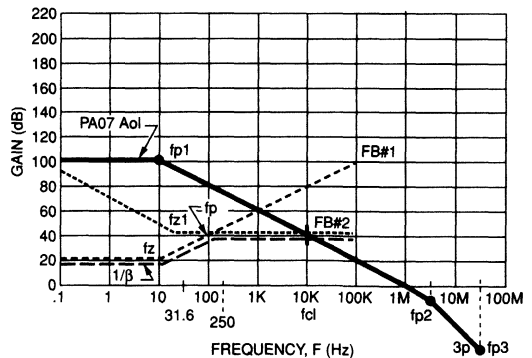

FIGURE 21. FINAL VALUE MAGNITUDE PLOT FOR STABILITY
STEP 5: We need to revisit FB#2 to make this V-I circuit stable. Figure 21 shows a new FB#2 and the resultant $1/\beta$ plot. Before we look at the open loop phase plot, let's discuss Figure 21. We see that in the PA07 Aol curve there is a pole at fp1, 10Hz, which will be a pole in our open loop phase plot. We also see a zero at fz, 10Hz, in the $1/\beta$ plot, which will become a pole in our open loop phase plot. Now we have two poles at 10Hz in our open loop phase plot. To keep the open loop phase from reaching -180, we must add a zero at 100Hz to get 45 degrees of phase margin. Poles and zeroes a decade beyond fcl, the intersection of $1/\beta$ and PA07 Aol, are of no concern for stability since at fcl the loop gain is zero. The reason we must look a decade beyond fcl on the magnitude plot is that poles and zeroes have an effect on phase plus or minus a decade away from their physical location on the magnitude plot.